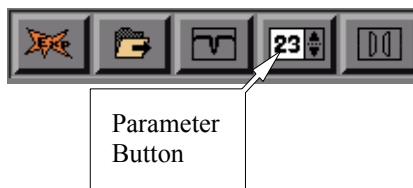

Figure 7-8 The Parameter button.
2. **Click the Parameter button.** Click this button to open the Acquisition Parameter dialog box. (See Figure 7-8.)